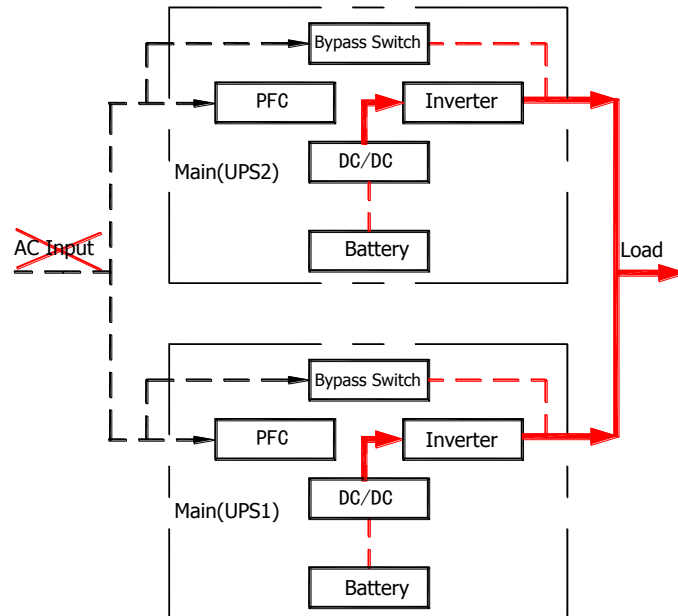

Fig.3.2-3 Working mode of utility abnormal
2、Working mode of utility abnormal (solid line is Energy flow of UPS) as shown in Fig.3.2-3.